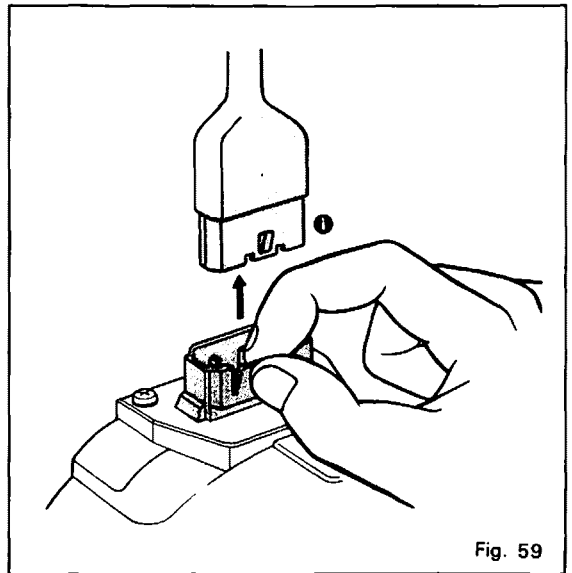

Fig. 59
- a. Detach the plug out of slow speed motor wire ❶ as per Fig. 59.